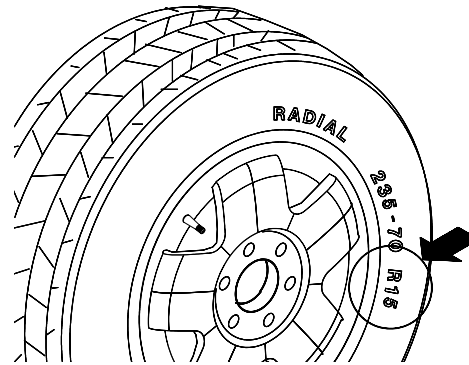

Figure 24
4.5.3 Rim Diameter Entry - Select the Manual Diameter button (#11 page 9). Read the rim diameter marked on the sidewall of the tire (Figure 24). Enter the measured rim diameter by rotating the shaft until the desired value appears in the right display